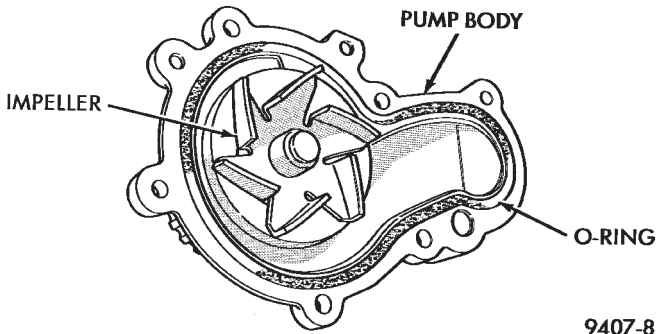

Fig. 31 Water Pump Body
(1) Install new O-ring gasket in water pump body O-ring groove (Fig. 31).